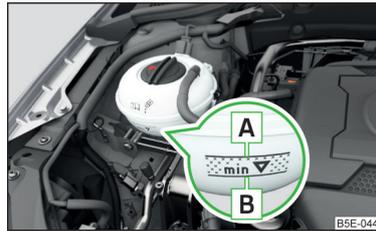

Fig. 311
Check the coolant level - the coolant level must be between the marks **A** and **B** » Fig. 311. If the coolant level is below the mark **B**, refill the coolant.
The **specification** of the coolant is shown on the coolant expansion reservoir » Fig. 311.
- Do not fill the coolant above the mark **A** » Fig. 311. When it heats up, the coolant could press out of the cooling system - there is a risk of damage to the engine parts.